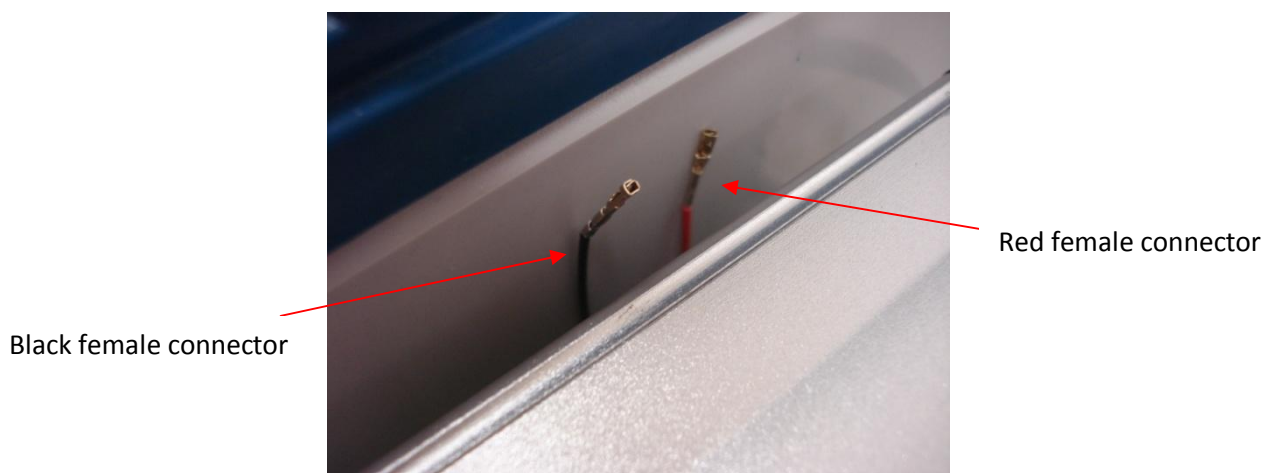

Figure 3: Connecting the red and black wires
- Ensure that the proper wire connections are made by opening the power supply case and looking for two wires (red and black) with female connectors (shown in figure 3). There will also be a set of two corresponding wires (also red and black, not shown). Before riding the bicycle these wires need to be connected. Simply plug the red wire into the female connector of the other red wire, and the black wire into the female connector of the other black wire.